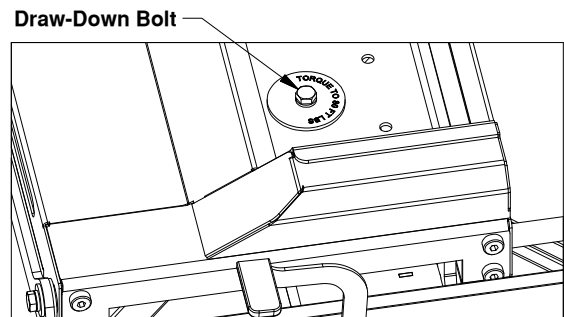

Figure B4: View looking into the top of the Slider Base.
6. Secure the base of the Slider to the truck bed by tightening the 1/2" x 3-1/2" draw-down bolt to 80 ft-lbs, see Figure B4.